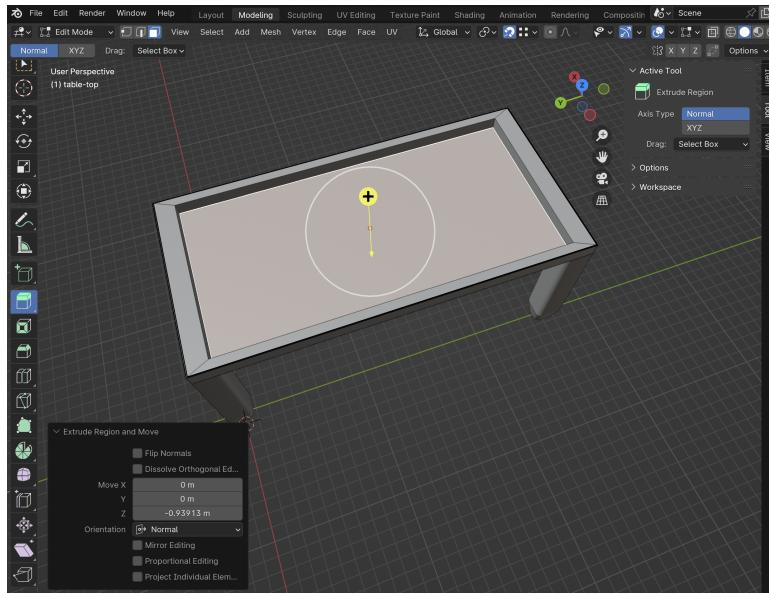

Figure 1.11: Extruding the table top.
16. Use *Extrude* tool from the left *Toolbox* to extrude a rectangular area and create an indentation in the table top (see Fig. 1.11).